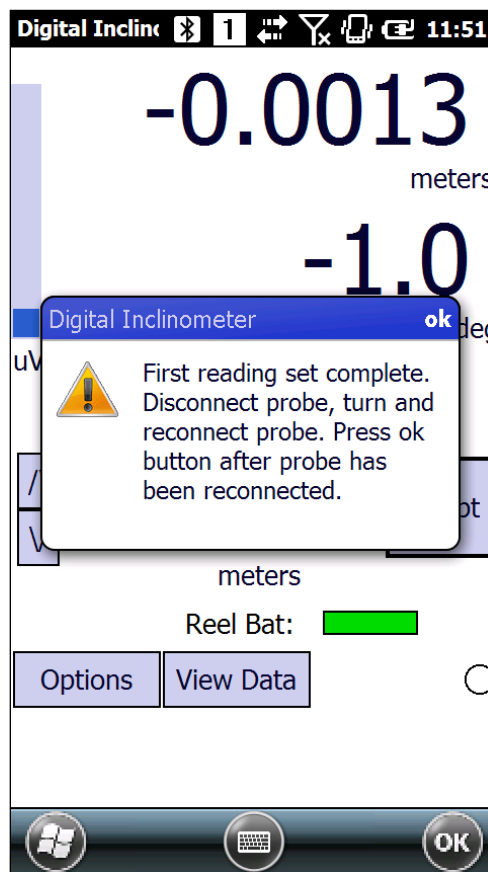

Figure 8: Turn Probe Screen
13. The Digital Inclinometer program will then prompt the user to disconnect and rotate the probe. The following screen will appear (see Figure 8):